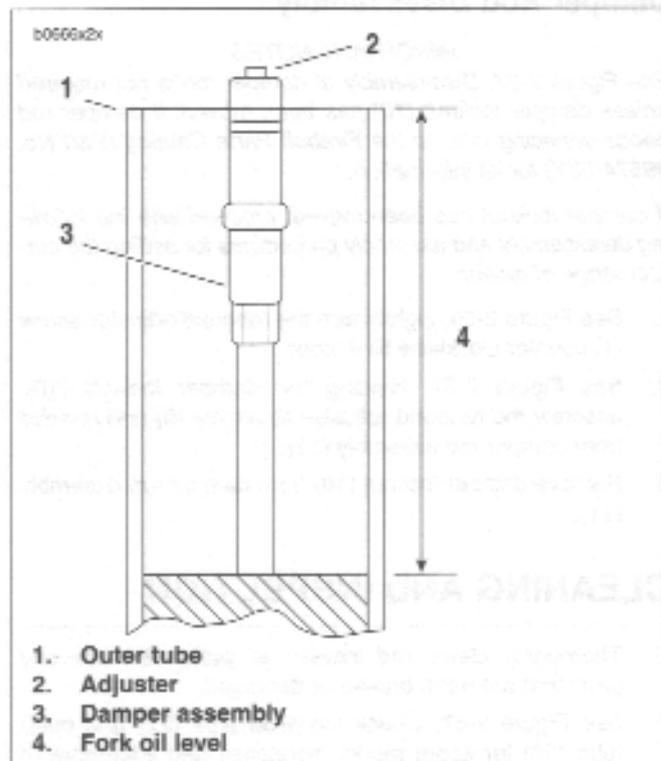

Figure 2-65. Measuring Fork Oil Level
17. See Figure 2-65. Adjust fork oil level with FRONT FORK OIL LEVEL GAUGE (Part No. B-59000A) so that it is 4.6 in. (118 mm) from the top of the fork tube.